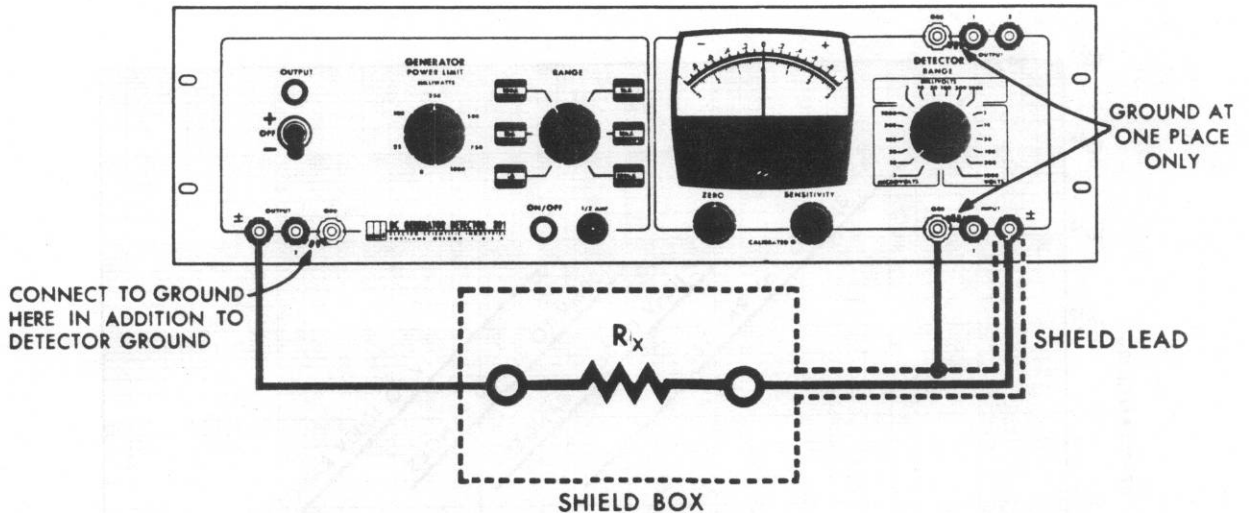

Figure 2.6 High-Resistance Measurement
To measure the approximate value of a very high resistance, such as the leakage in an insulator, use the circuit shown in Figure 2.6.
4. Connect the unknown resistance R_x in the circuit of Figure 2.6.